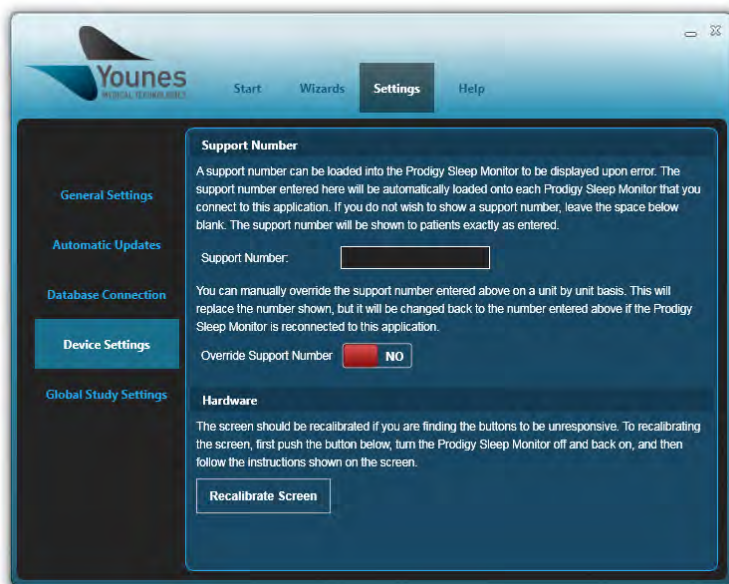

Figure 110 – Windows PC Prodigy Application Edit Screen (Device Settings)
- Once “Edit” is selected, the screen appears as shown in Figure 110. Read the information provided on the screen. To load a support number onto the device simply click anywhere in the black box beside “Support Number:” and type in the number you would like.